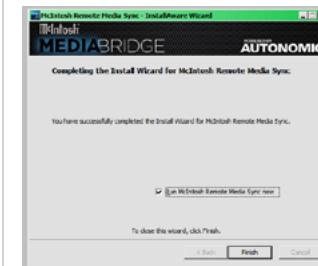

Figure 55
6. When figure 55 appears on the screen, click on the “Finish” button to start the just installed McIntosh Media Sync Program.